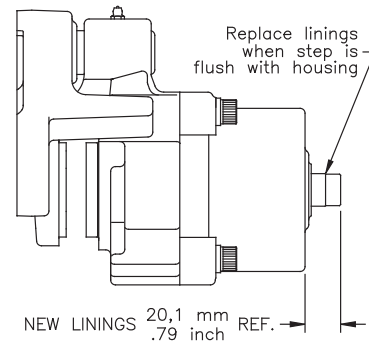

FIGURE 7
* See Figure 7 on page 3 for lining replacement information.